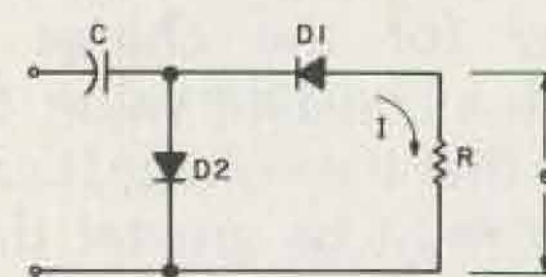

Fig. 6.
One interesting twist to the circuit (see Fig. 6) is that if we multiply the average current (I) by the resistance (R), we get (from Ohm's Law) a voltage, e . Our equation now becomes: $IR = e = RFCV$.